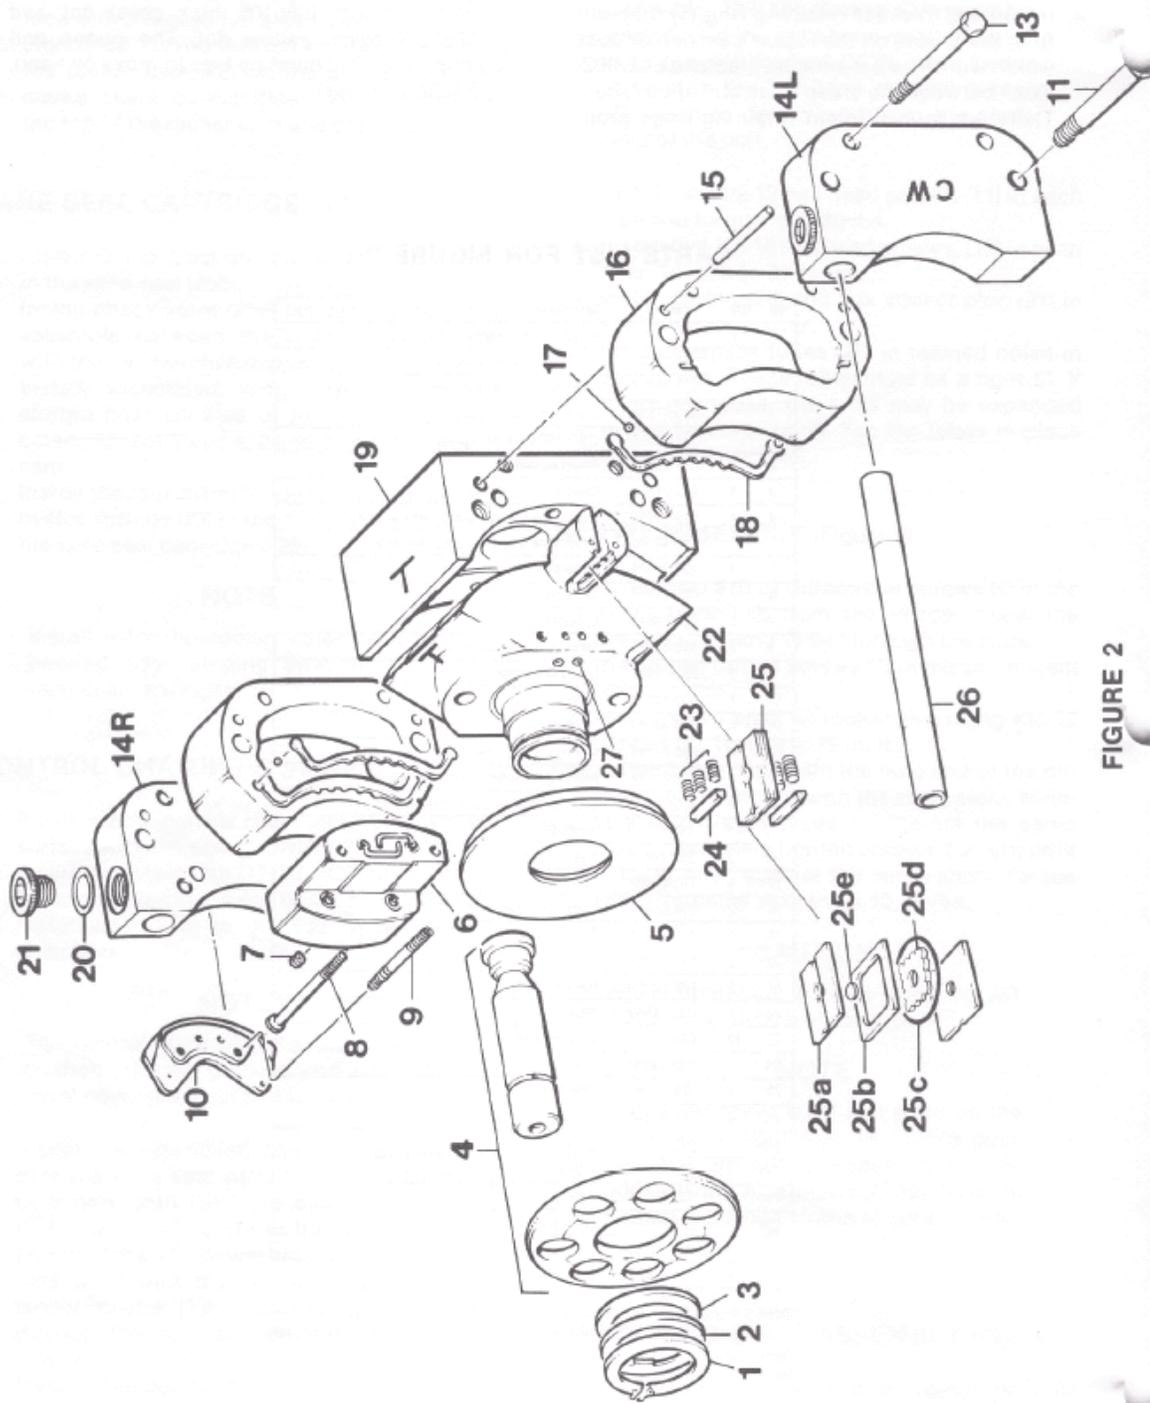

FIGURE 2
4. Position the assembly in an upright position on the flat surface of the cradle (see Figure 2).
5. Remove the retaining ring (1), thrust washer (2), flange bearing (3), piston and shoe assembly (4) and creep plate (5) from the rocker cam (22).
6. Remove the two differential screws (9) from the rocker cam and remove the servo input parts (6, 7, 8 and 10).
ROCKER CAM ASSEMBLY *(Figure 2)*
VANE SEAL CARTRIDGES *(Figure 2)*
CONTROL CHAMBERS *(Figure 2)*
SERVO ASSEMBLY (*Figure 2*)
PISTON AND SHOE ASSEMBLY (*Figure 2*)
PARTS LIST FOR FIGURE 2